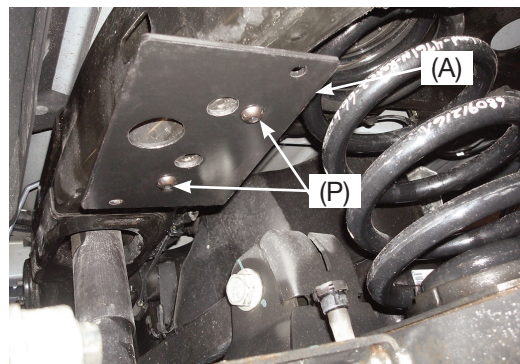

Fig. 7
- Attach the upper frame bracket (A) to the frame (Figs. 7 & 8) using the M10 button head screws (P).